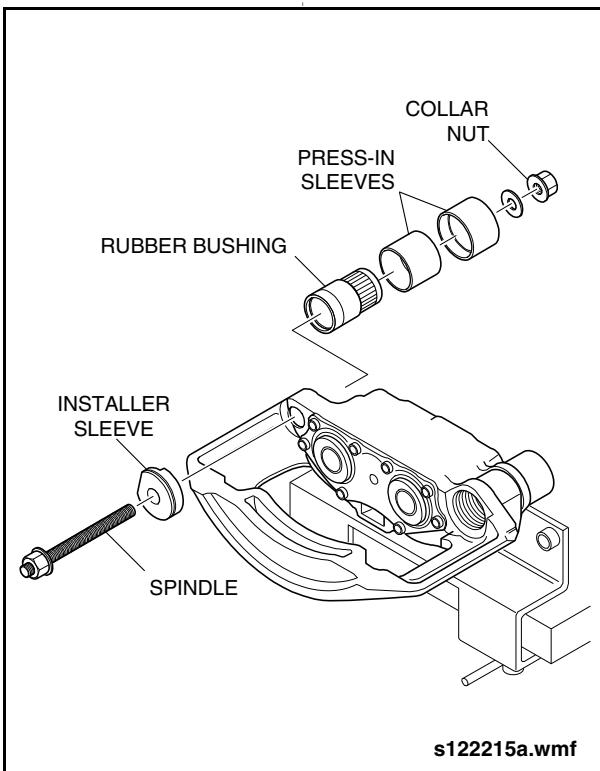

Fig. 1-62: Rubber Bushing Installation
- b. Position installation tool with rubber bushing on the brake caliper and mount with spindle and collar nut tools (Items 70, 71, 72, 75, & 77 from special tools list). See "Fig. 1-62: Rubber Bushing Installation" on page 65.